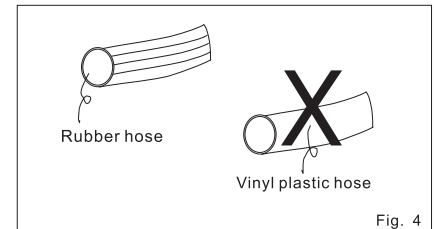

Fig. 4
- Use only a rubber hose, do not use a vinyl plastic hose, as this can be dangerous (Fig. 4).